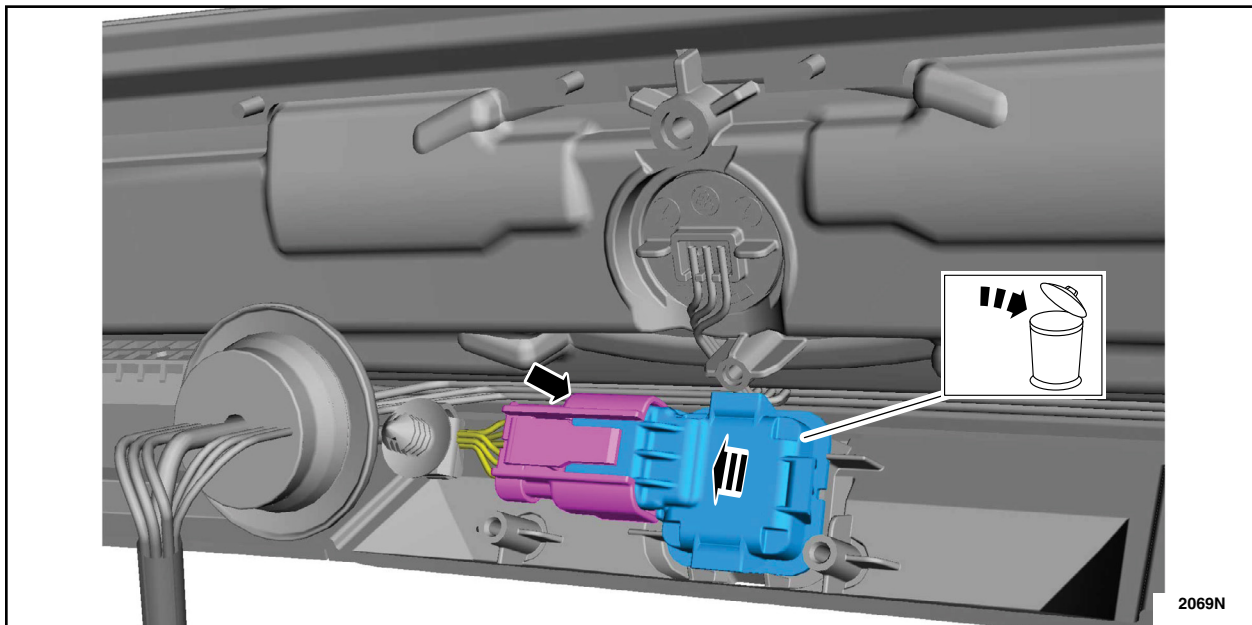

FIGURE 7
7. Disconnect the electrical connector and remove and discard the rear parking aid camera. See Figure 7.